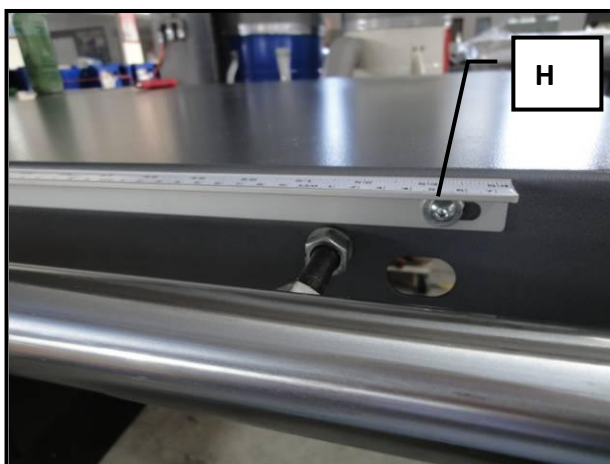

Figure 3-4.1b
2. Mount the fence scale (ruler) to the edge of the cast table and extension table. Fasten the 3 sets of screws & washers H (Fig. 3-4.1b) .